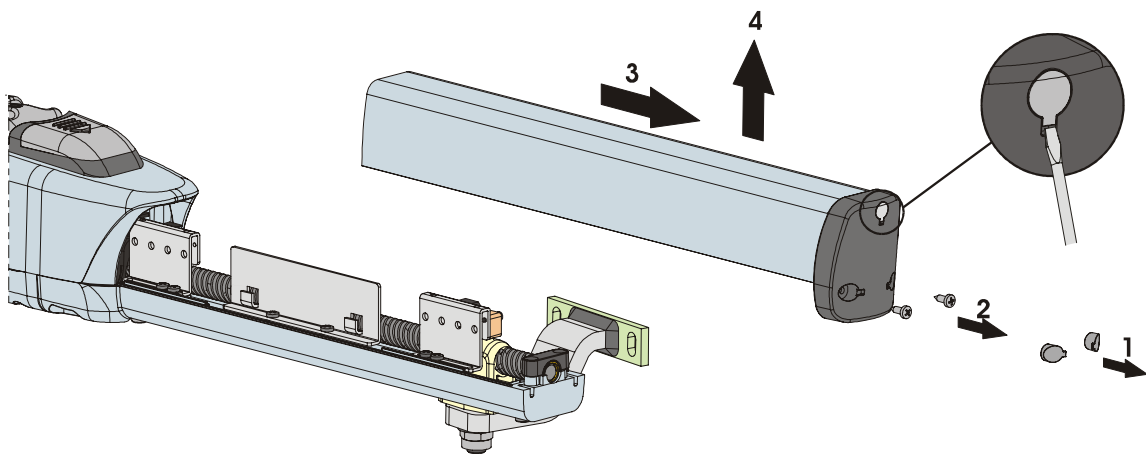

Fig. 23
- 1) Remove the two plugs which cover the lower securing screws, Fig.23 ref.1. To facilitate this operation, a slot is provided for inserting a screwdriver.
- 2) Unscrew both lower screws of the front cap and remove the cover, Fig.23.